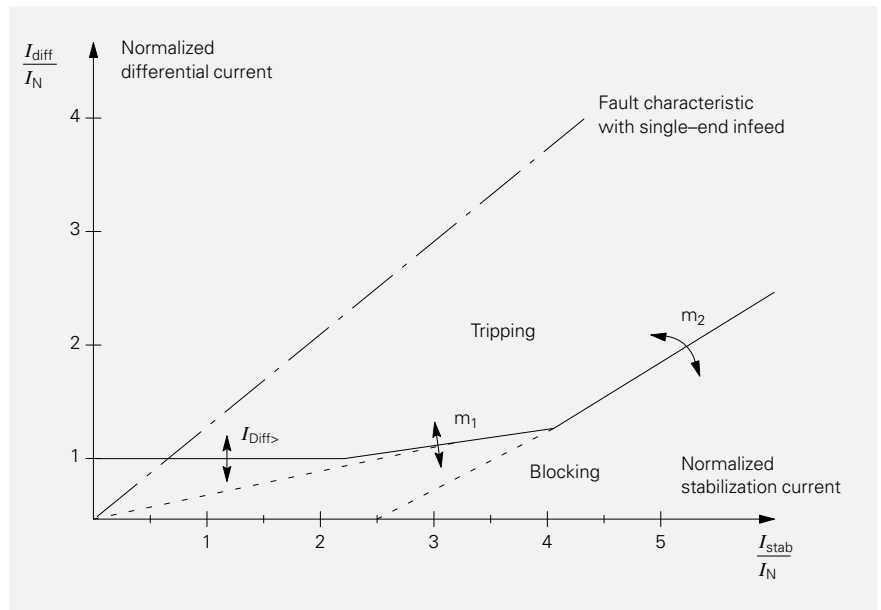

Fig. 3 7SD502 line differential protection
- Response characteristic for three-phase, balanced short-circuit current as shown in Fig. 3. The response value $I_{diff>}$ and the gradient of the characteristic branches are parameterizable.